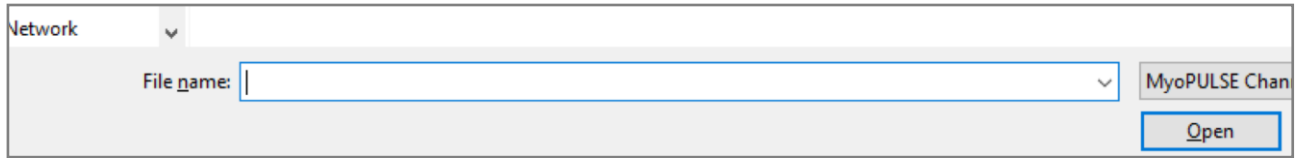

Figure 3.3.3 Load from file option
B) 'Load from file': Will load an existing "single channel stimulation" protocol for that particular channel (figure 3.3.3).